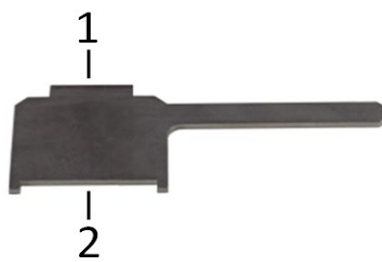

Fig. 5: P-721.xxQ: Flat wrench (included in the scope of delivery of the thread adapter set)
- Key tool supplied (see Fig. 5, p. 16)